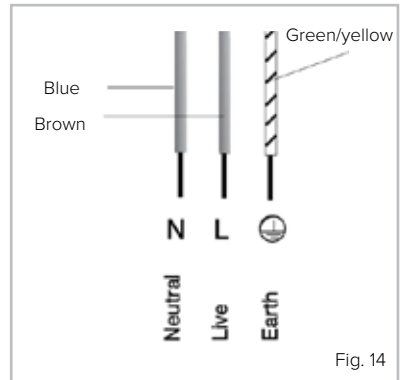

Fig. 14
- Hold the door as shown in fig. 14.